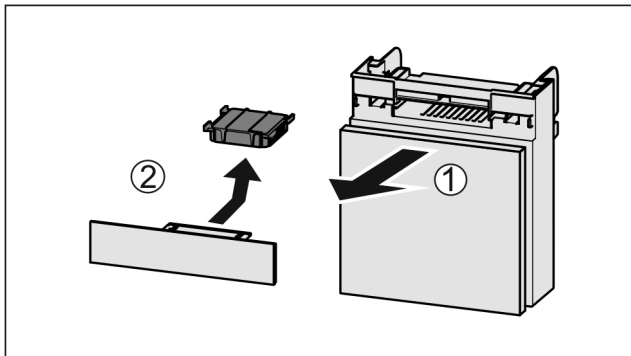

Fig. 141
- ▶ Pull out the compartment Fig. 141 (1).
- ▶ Remove the carbon filter Fig. 141 (2).